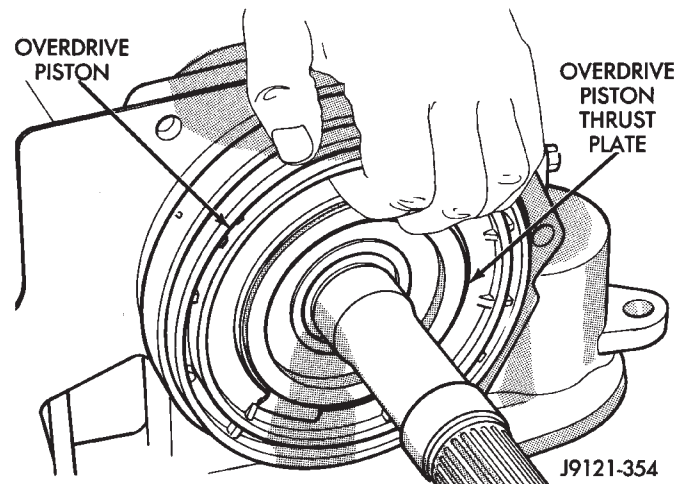

Fig. 180 Installing Overdrive Piston Thrust Plate
(40) Install spacer on intermediate shaft, if not previously installed.
(41) Install overdrive piston thrust plate (Fig. 180). Use liberal quantity of petroleum jelly to hold thrust plate in position on piston.